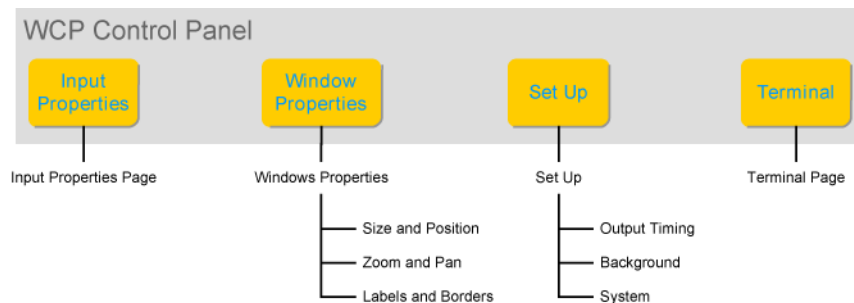

Figure 5-1. WCP Menu Selections
- Click on the WCP control panel (Figure 5-1) **Set Up** button.
- Click on the WCP control panel (Figure 5-1) **Set Up** button